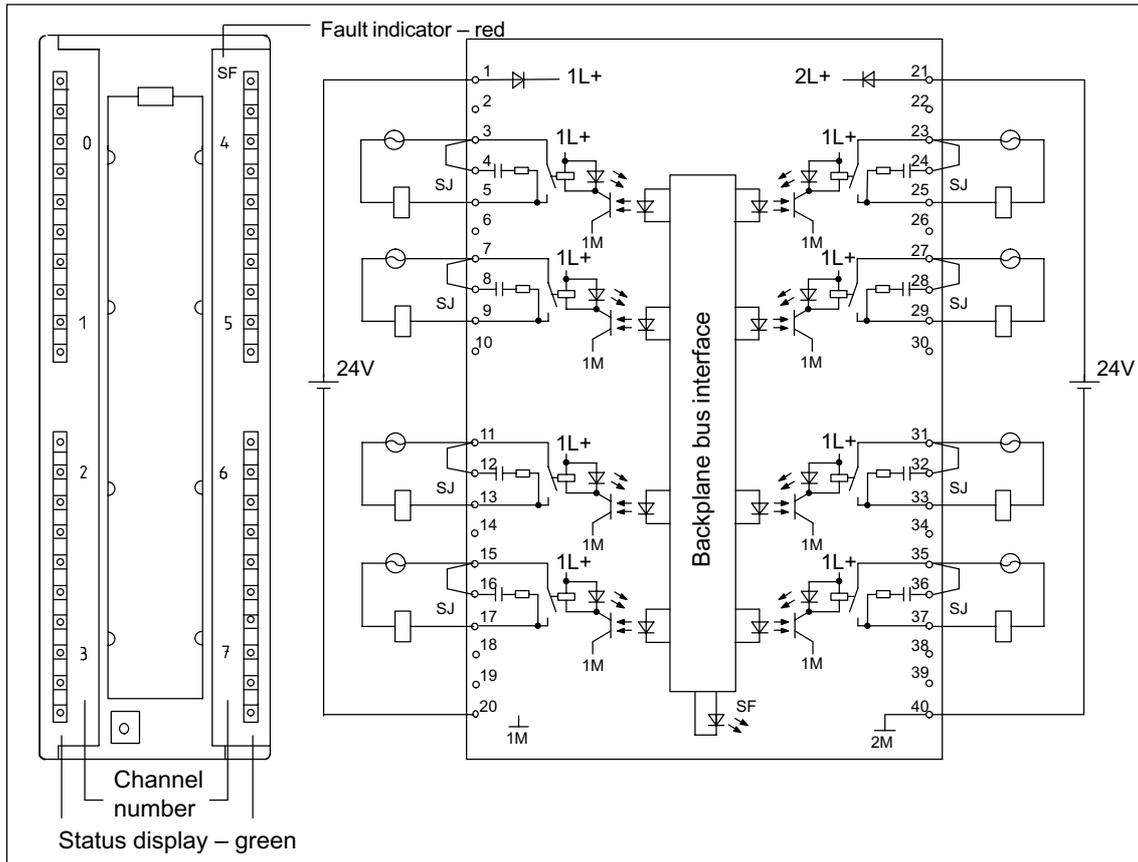

Figure 3-32 Module View and Block Diagram of the SM 322; DO 8 x Rel. 230 VAC/5A
You protect the contacts against overvoltages by inserting jumpers (SJ) on the module between terminals 3 and 4, 7 and 8, 12 and 13 etc. (refer to Figure 3-32).